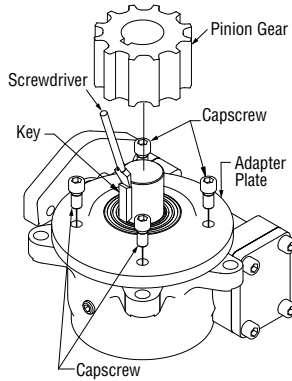

Figure 5-6, Adapter Plate Removal
4. Remove the pinion gear and key from the output shaft. Use a screwdriver to knock the key loose. (Figure 5-6)
5. Remove the capscrews from the adapter plate. The adapter plate capscrews are installed with Loctite, use a long handle wrench to them break loose. Lightly tap the back of the adapter plate with a rubber mallet to remove. (Figure 5-6)